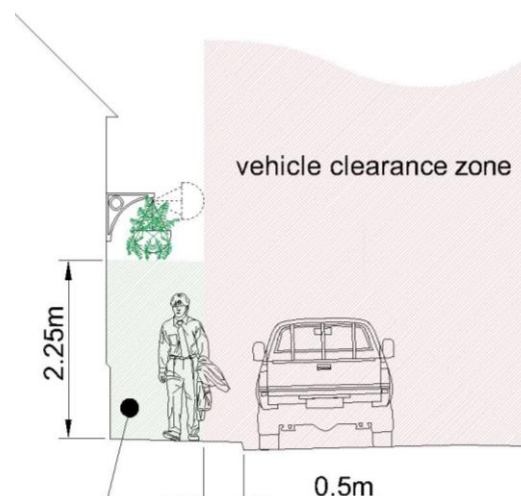

Figure 5.2: Clearance zones for wall-mounted hanging baskets
Under section 129(8) of the *Roads (Scotland) Act 1984*, it is an offence to place a projection less than either 2.25m above the level of the footway or 50cm inwards from a carriageway. Baskets or foliage must not intrude (when either static or swinging) into the clearance zones shown on figure 5.2.